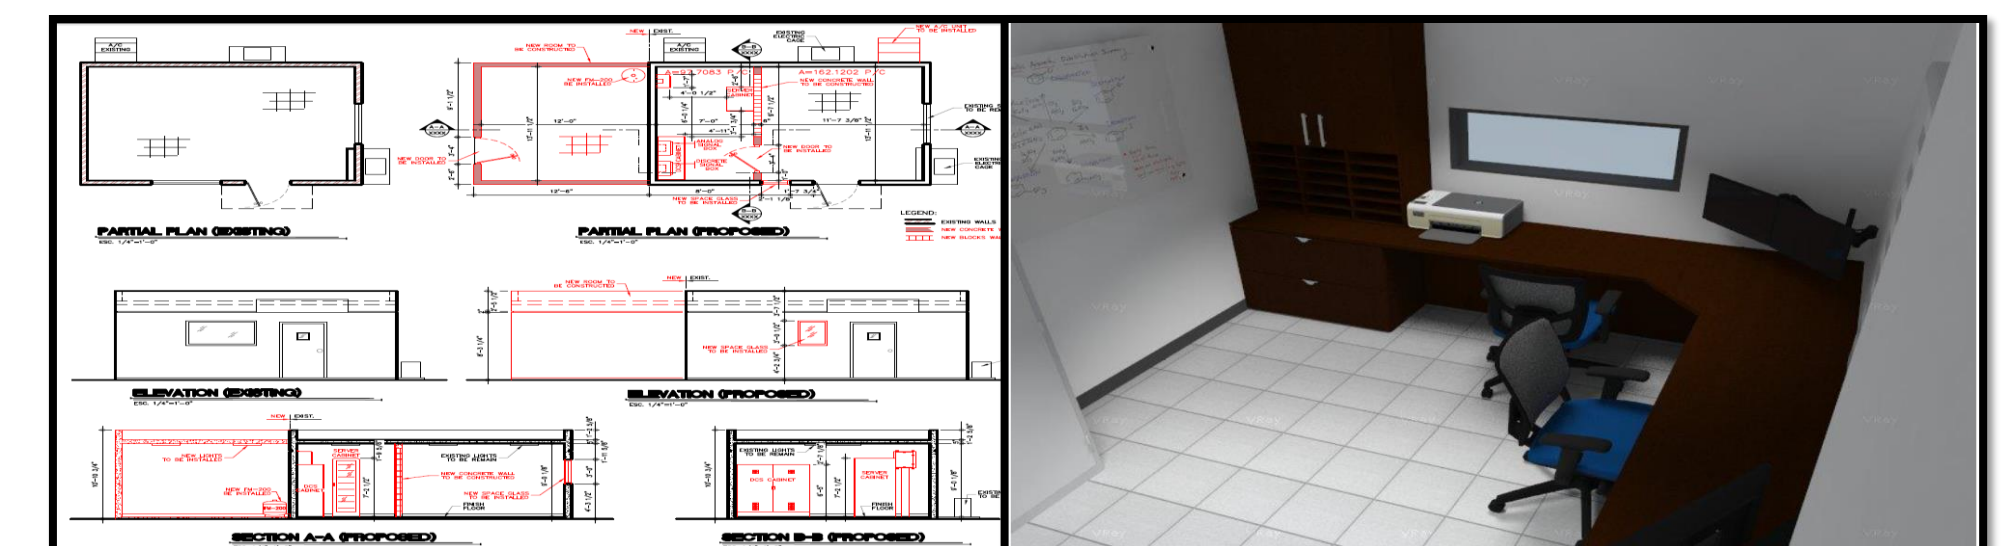

Figure 3: Control Room Improvements Design & Furniture
- Convert Safety Office in the EOA Control Room. Figure 3 show a proposed concept design for the new control room.